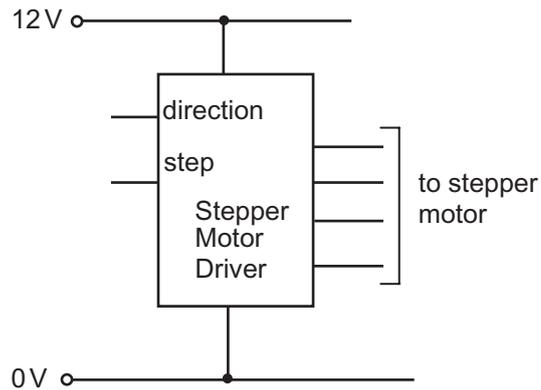

Fig. 1(b)
- (i) Explain the function of the **step** and **direction** pins on the stepper motor driver shown in Fig. 1(b). [2]